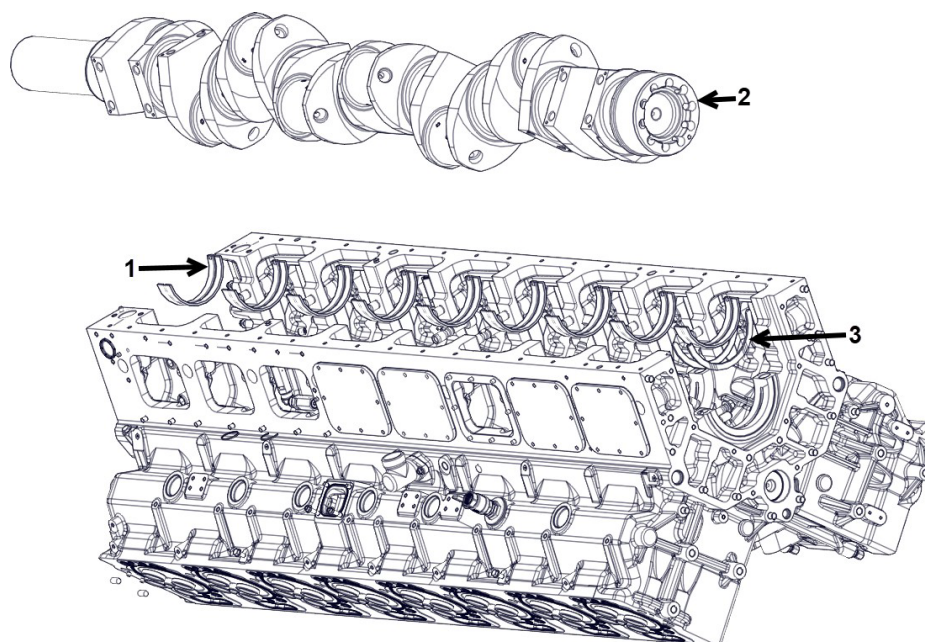

Figure 122.
3. Reinstall new main bearing (Figure 122, Item 1) and thrust plate (Figure 122, Item 3) in the cylinder block and main bearing caps.
5. With proper hoisting assistance place the crankshaft (Figure 122, Item 2) into the engine.